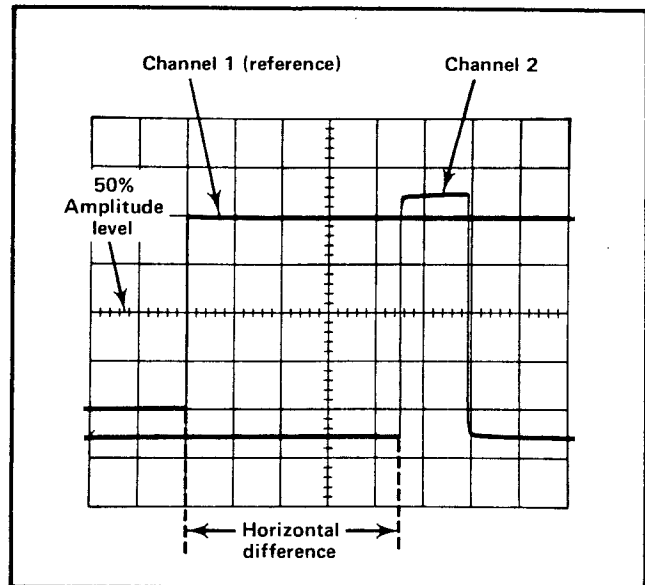

Fig. 2-23. Measuring time difference between two pulses.
11. Measure the horizontal difference between the Channel 1 waveform and the Channel 2 waveform (see Fig. 2-23).
**Example.** Assume that the TIME/DIV switch is set to 50 μs, the MAG switch to X10 and the horizontal difference between waveforms is 4.5 divisions (see Fig. 2-23).